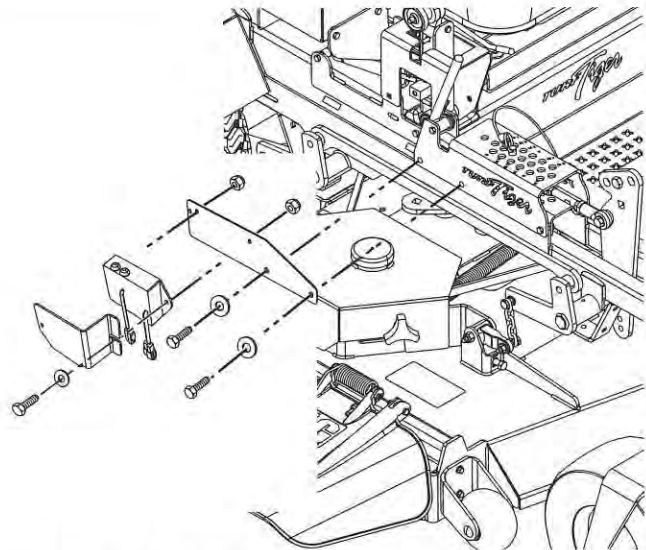

Figure 3-26. RF Module and Mounting Bracket Installation
3. Secure the RF control module and guard to the mounting bracket using two (2) 1/4-20 x 1" bolts, two (2) 1/4" flat washers, and two (2) 1/4-20 elastic stop nuts. See Figure 3-26.